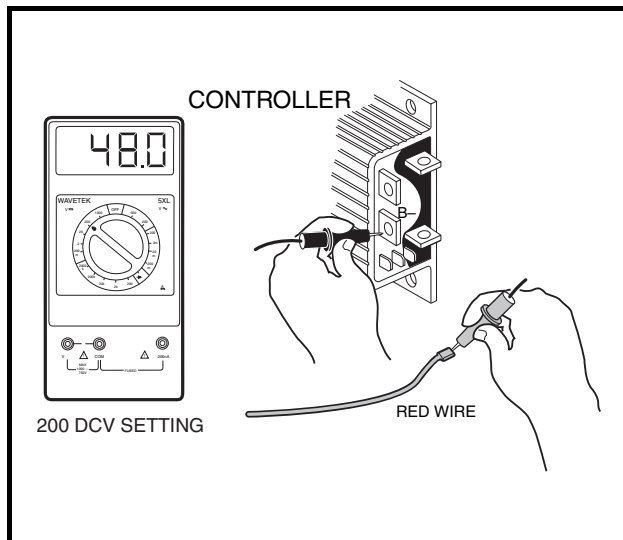

Figure 11-25 Input Voltage Test
- 3.3. Place multimeter (set for 200 volts DC) black probe (–) on B– terminal of controller (with 6-gauge black wire attached) and red probe (+) into terminal end of red wire removed from controller terminal 1. Multimeter should indicate full battery voltage with accelerator pedal pressed to floor (**Figure 11-25, Page 11-25**).